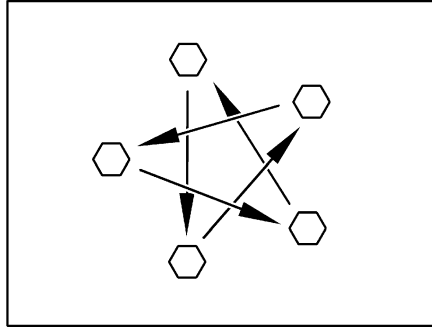

Fig. 185 Tighten the wheel nuts or wheel bolts cross-wise
- Check regularly that the wheel nuts or wheel bolts are firmly seated. Re-tighten the wheel bolts of a changed wheel cross-wise after 50 km (30 miles) (Bild 185).
- ▷ Tighten the wheel nuts or wheel bolts cross-wise (Bild 185).